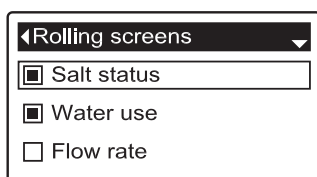

FIG. 41
5. Press the SELECT (O) button to display the Rolling screens menu (See Figure 41).